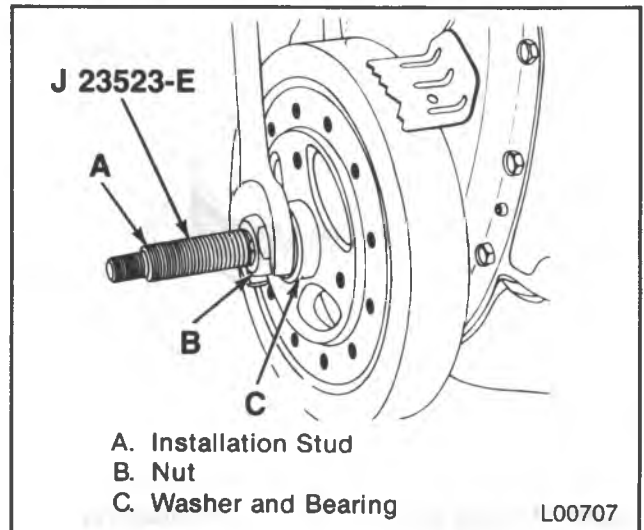

Figure 18 — Installing the Torsional Damper
3. Stud ('A'; figure 18) to the crankshaft. Thread the stud fully into the tapped hole in the crankshaft.
5. Bearing, washer and nut (figure 18).